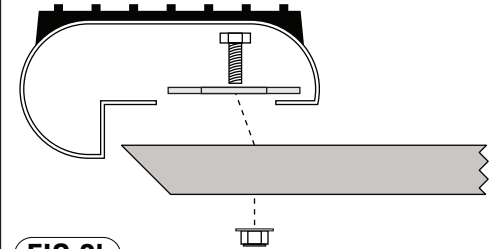

FIG 2b TOP VIEW
3) Rotate clamp brackets above main brackets, making sure that both edges of the running board are in between the clamp bracket and the main bracket. Install 5/16" hex bolt through center hole of bracket clamp and oblong hole of main bracket placing 5/16" flange nut on bottom side (Fig 2b).